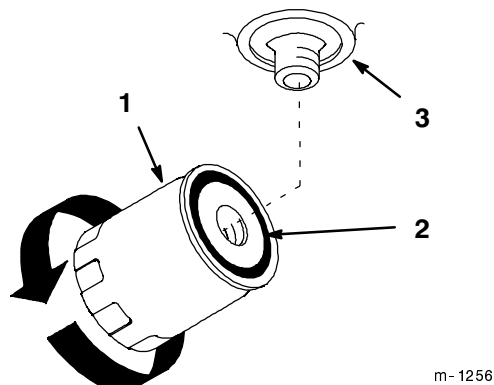

Figure 80
4. Apply a thin coat hydro fluid to the rubber gasket on the replacement filter (Fig. 80).
7. When fluid overflows filter turn the oil filter clockwise until the rubber gasket contacts the filter adapter, then tighten the filter an additional 1/2 turn (Fig. 80).